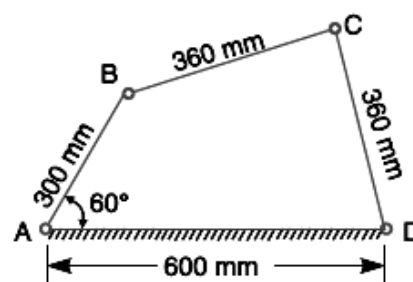

Fig. 2
- (c) In a pin jointed four bar mechanism, as shown in Fig. 2, AB = 300 mm, BC = CD = 360 mm, and AD = 600 mm. The angle BAD = 60° . The crank AB rotates uniformly at 100 r.p.m. Locate all the instantaneous centres and find the angular velocity of the link BC. **07**